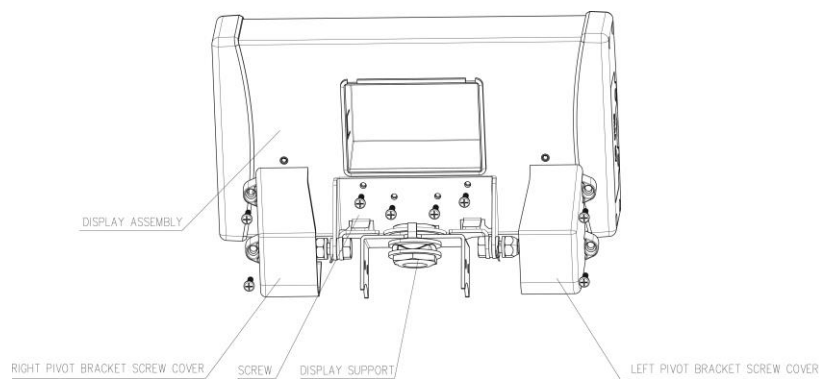

Figure 6
13. Rotate the display support so that it is perpendicular to the handrail (see Figure 6). Position the display assembly close to the display support. Plug the load cell cable connector into the load cell port on the rear of the display assembly. The port is labeled "LOAD CELL" (see Figure 7). **Note:** Do not attach the AC adapter power cord into the back of the display assembly at this point.